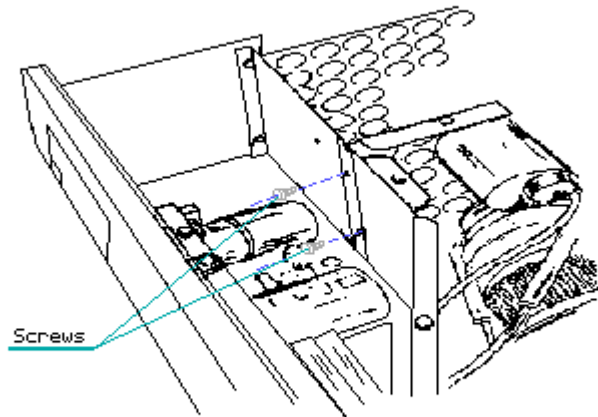

Figure 7.12-2. Removing the Monitor Enclosure Screws from the Power Supply Subsystem Area
4. Using the special two piece socket power supply removal tool or box end wrench, remove the two screws that secure the monitor enclosure to the wall of the power supply subsystem area (Figure 7.12-2).